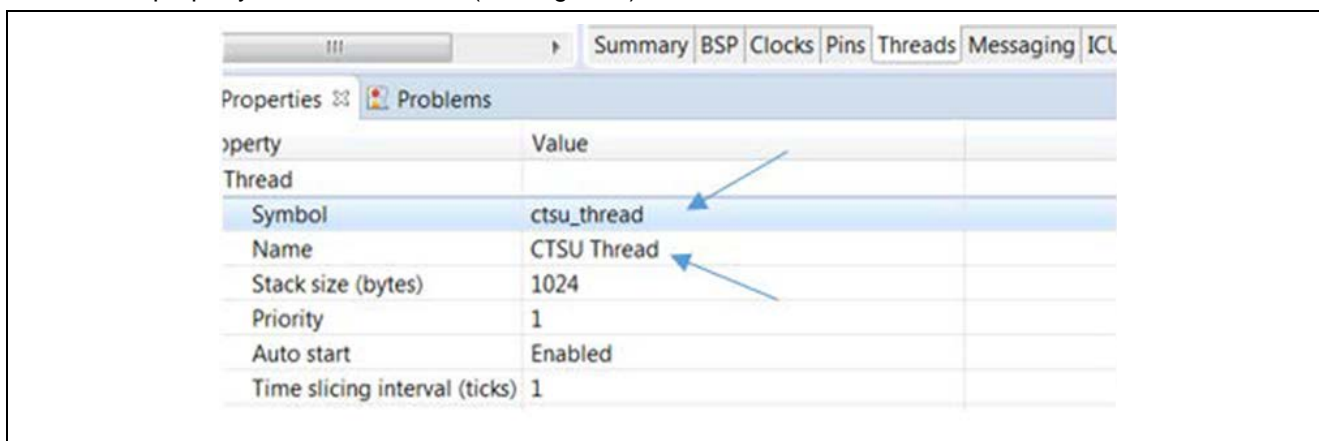

Figure 6. CTSUS Thread Properties
2. Set the property of the new thread (see Figure 6).